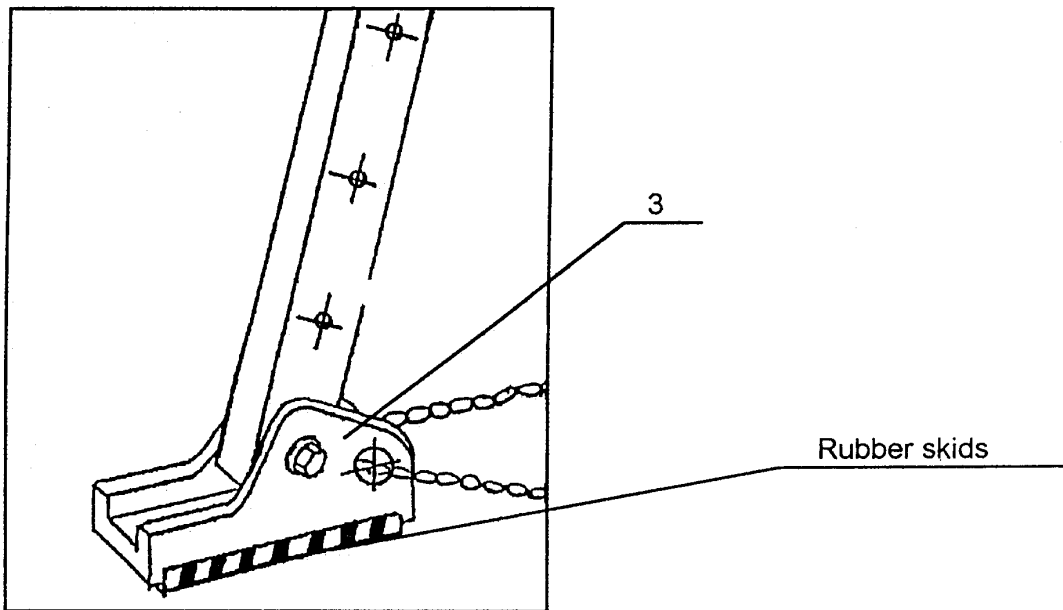

Figure 8. The cast aluminum feet with rubber skid pads and chain
The cast aluminum head (1) of the Tripod includes either two 5/8" diameter forged steel eyebolts (Figure A) or two locking swivel hooks (Figure B). The lengths of the three aluminum telescoping legs (2) can be adjusted using attached lock pins (6). The proper position of each leg is secured by an automatic hinge lock (4) at the head. The cast aluminum Tripod feet (3) have rubber skid pads to limit movement on slippery surfaces (Figure 8). A safety chain (5) provides secondary backup by preventing the legs from spreading.